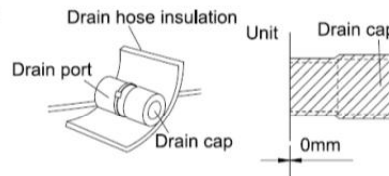

Fig. 4.27
2. The unused drain port also should be insulated properly.(Fig. 4.27)